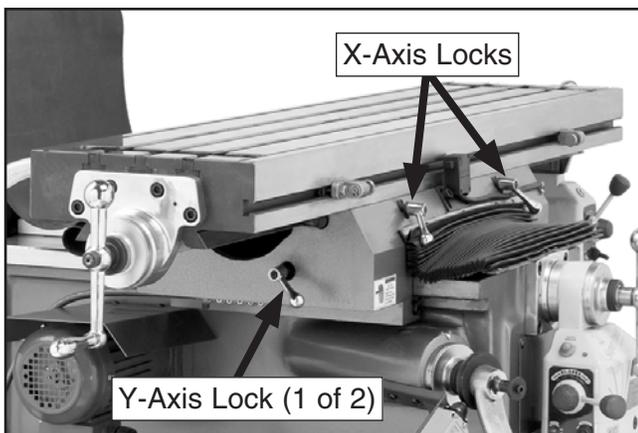

Figure 19. X- and Y-axis table locks.
3. Loosen X- and Y-axis table locks on the front of table (see **Figure 19**).